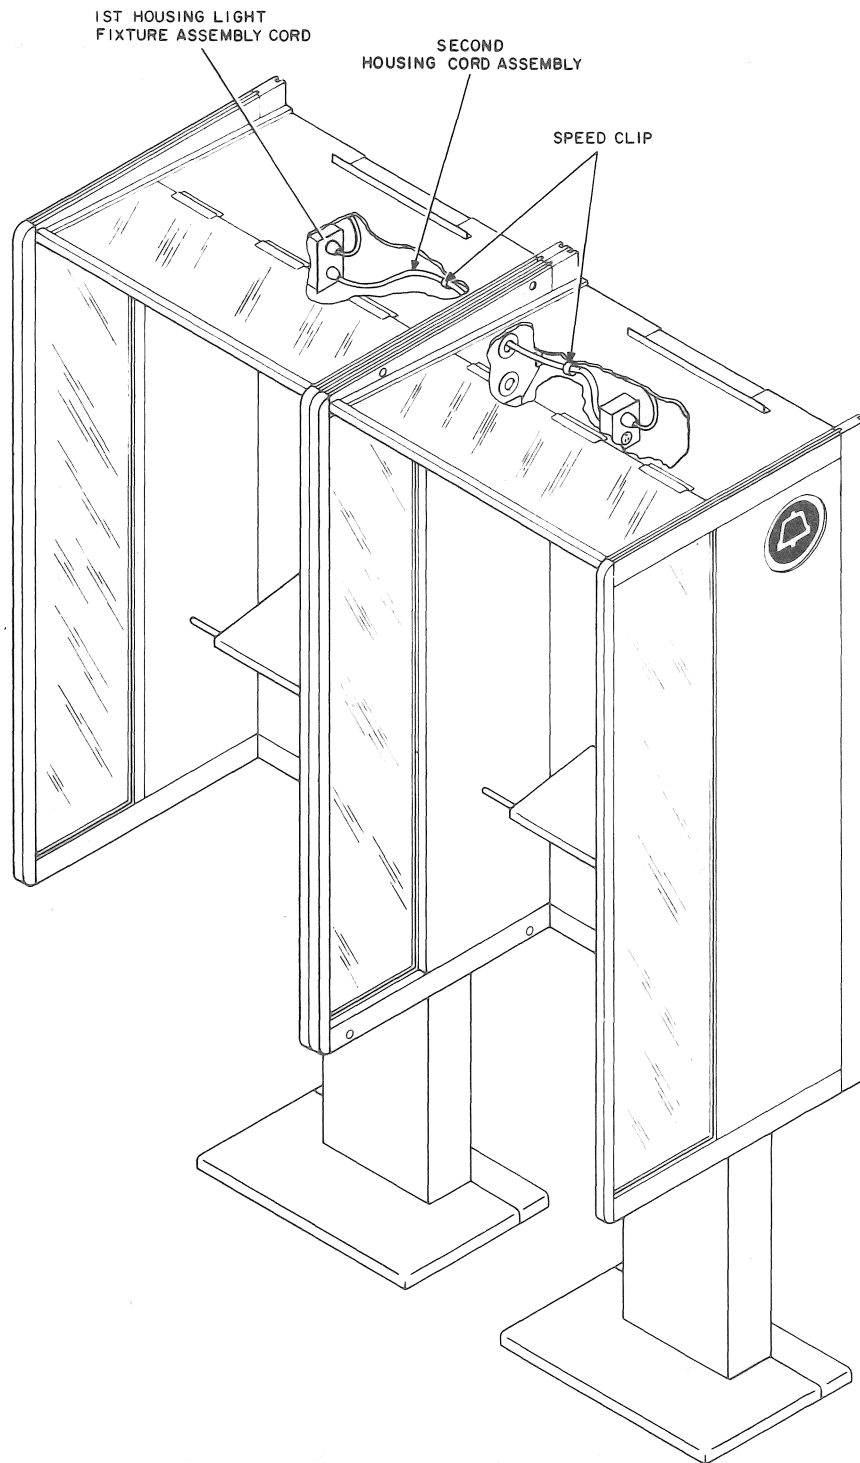

Fig. 28—Electrical Wiring Arrangement of Two List 32 Housing Installed Side-by-Side
- (1) Remove the four hole plugs (two at top and two at bottom) of wing assemblies now in contact with each other.
- (2) Install the four 1/4-20 UNC-2A by 3/4 socket head cap screws [where hole plugs were removed in step (1)] and draw the housings together, tighten these four screws.
- (3) Install the four new hole plugs [in place of ones removed in step (1)].
- (4) Install the two L-767094 grommets through the two holes of the L-767093 panels installed in 3.14 (2) and (3).
- (5) Second housing, pull the housing cord up through and out of the wall, then put it through the top grommet and plug it into the first housing outlet box (Fig. 28).
- (6) Install the two speed clips at locations shown in Fig. 28 to secure the L-767084 housing cord.